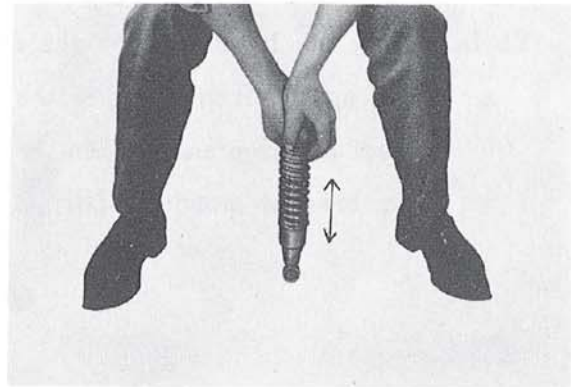

Fig. V-6-2
- 2) Compress the shock by applying weight as shown in Fig. V-6-2, and release it.